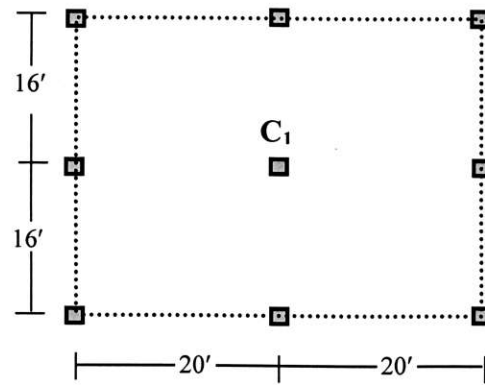

Figure:12
15. A building is to be designed as a flat plate structure. A plan of the building is shown in (Figure:12) and dimension of all columns is 12"X12". Using WSD, check column C_1 of the slab shown in Figure: 12 for punching shear and calculate shear reinforcements [Given, slab thickness = 6 inch, FF = 25 psf, RW = 20 psf, LL = 40 psf, $f'_c = 3$ ksi and $f_y = 40$ ksi, $f_{c,all} = 1.35$ ksi and $f_{s,all} = 18$ ksi]